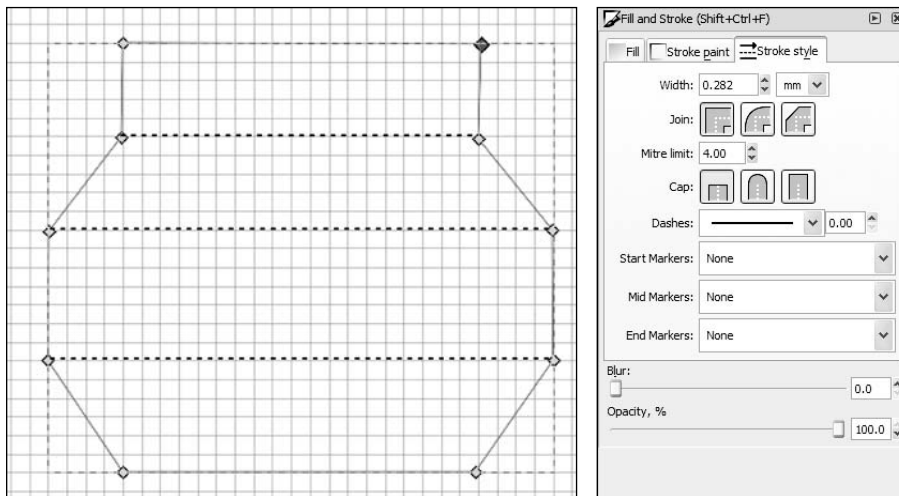

Figure 14-7:
Move your mouse pointer to where you want a corner to be and click. Work your way around the shape. When you get back to the beginning, a closed shape, as in Figure 14-7, appears. You can change the color of the shape by clicking on the color boxes at the bottom of the screen.
8. Add the fold lines (see Figure 14-7).
Using the Select tool, select a horizontal line by clicking on it. Right click on the line and select Fill and Stroke. A dialogue box pops up (as in Figure 14-7). Click on the Stroke Style tab and choose the dash style that you want from the Dashes drop-down list. Click on OK. Do this for each of the three horizontal lines.